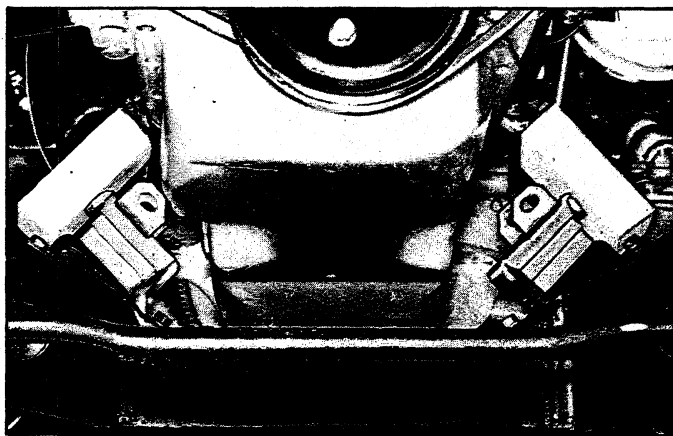

Fig. 5L - Engine Blocked for Pan Removal
10. Using a suitable jack (and a block of wood to prevent damaging oil pan), raise engine enough to insert 2" x 4" wood blocks under engine mounts (fig. 5L), then lower engine onto blocks.